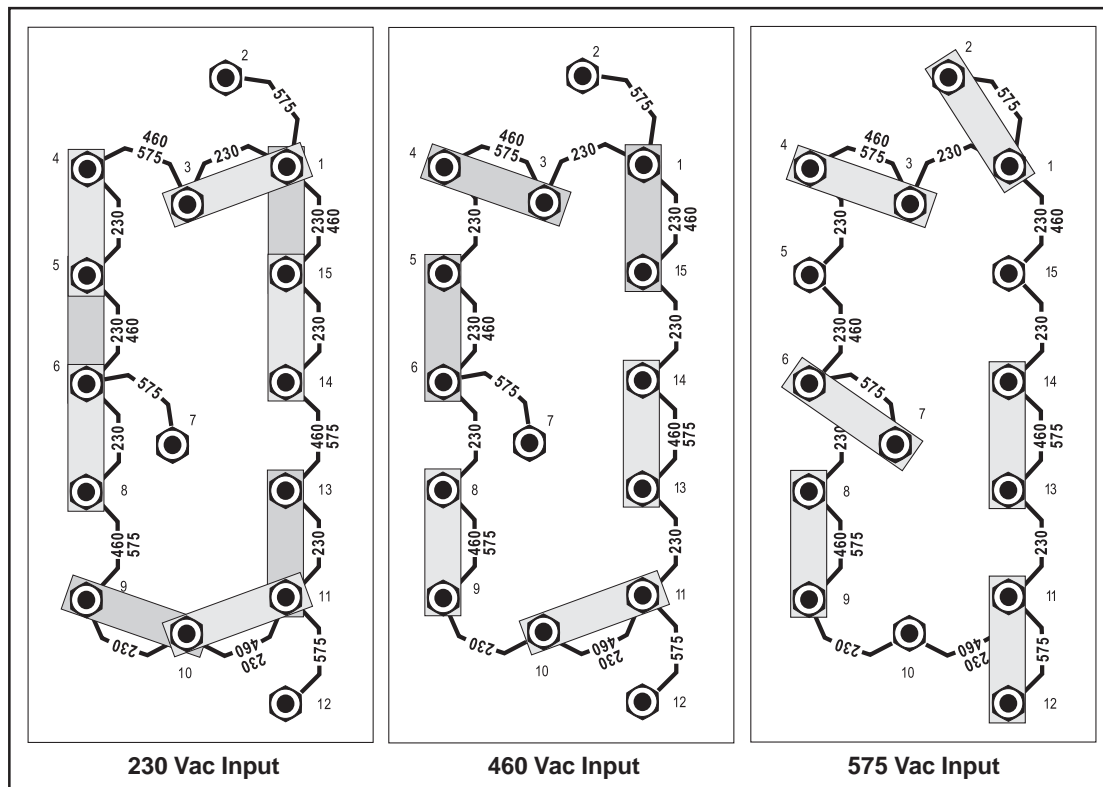

Figure 3-3. Input Terminal Board Configuration for 230/460/575 Model
5. Figure 3-3 illustrates the input voltage terminal boards and the input voltage link connections. The particular voltages from which this power source may be operated are stated on the rating plate. The voltage links were factory set for highest voltage stated on the rating plate (575VAC). If the power source is to be operated on another stated input voltage, the links must be reset for that particular input voltage. Always verify the input voltage and check the link arrangement regardless of factory setting. The voltage links are set up by reconfiguring the copper link bars to the silk-screened voltage designations for the desired voltage.